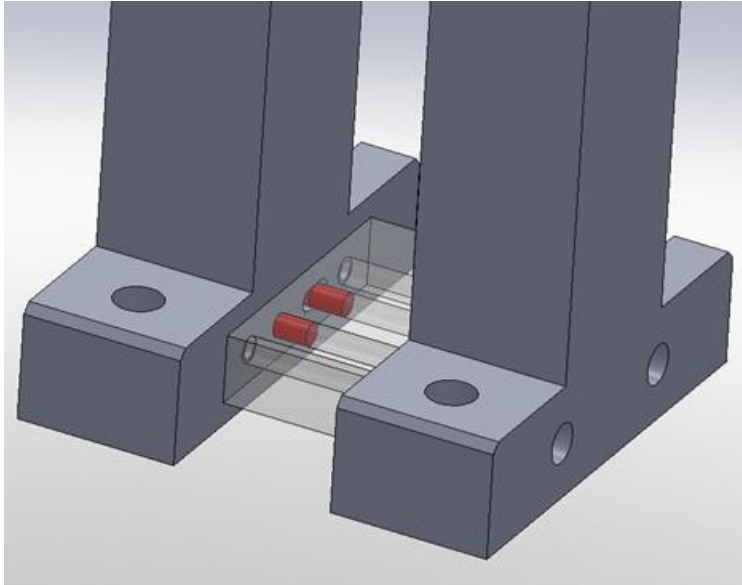

Figure 127: D0902131 Stage 0-1 Safety Mechanism Center Part of D0901872 Stage 0-1 Safety Mechanism
- Press (2) 1/4" x 5/8" dowel pins into D0902119 Stage 0-1 Safety Mechanism Right Post as shown on Figure 127. Pins should sit about 0.25" above the surface.
- Press (2) 1/4" x 5/8" dowel pins into D0902130 Stage 0-1 Safety Mechanism Left Post as shown on Figure 127. Pins should sit about 0.25" above the surface.